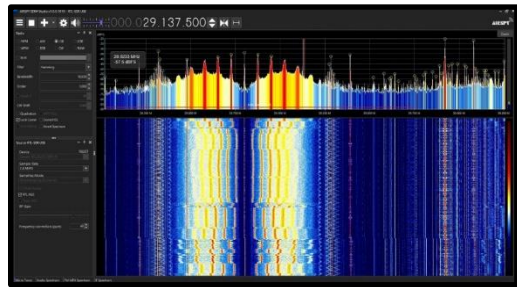

Figure 11: The waterfall produced by SDR
20. Press the Play button. The RTL-SDR software radio should now be playing some static and showing an RF spectrum and waterfall display (Figure 11). Using the frequency range at the top of the program window, tune to different broadcast signals.